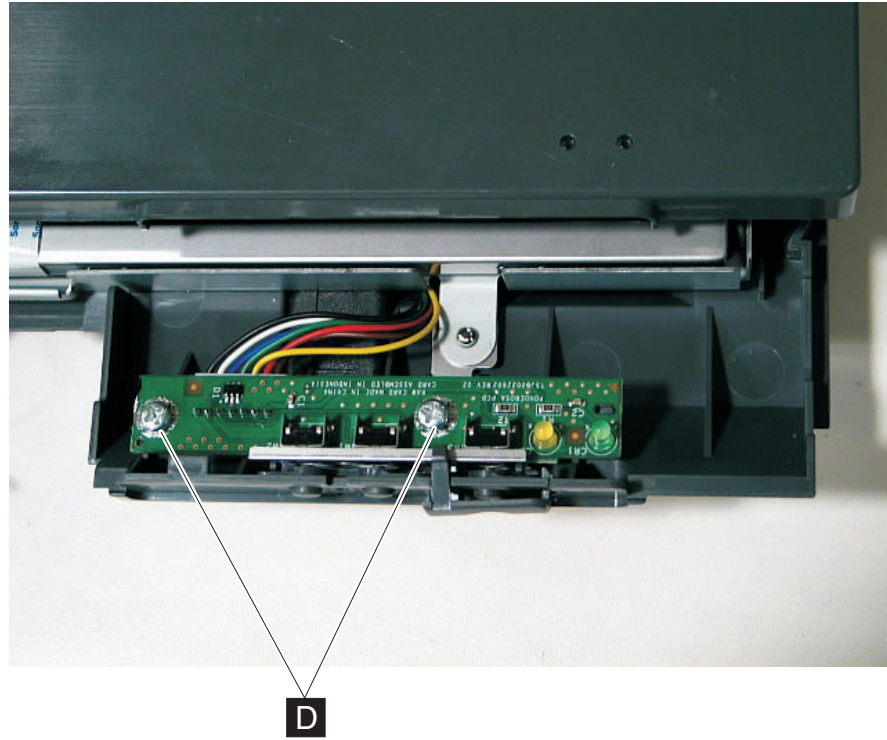

Figure 16. Removing the operator card
4. See Figure 16. Remove the two screws (**D**) and lift out the card.